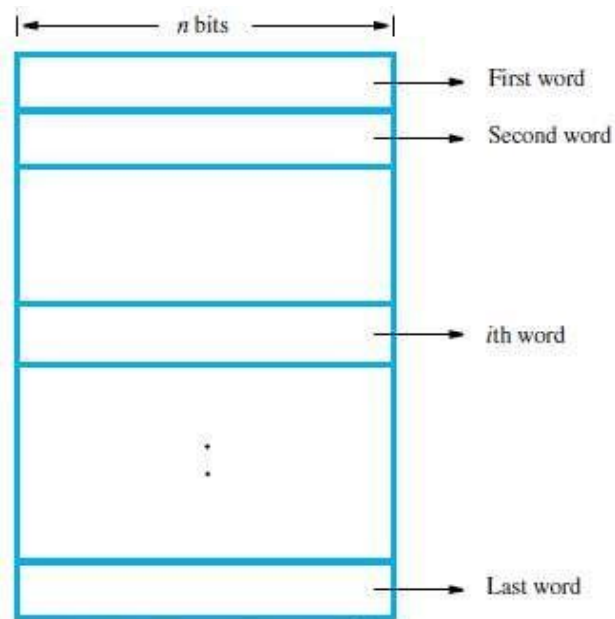

Figure 2.1 Memory words.
- Each cell can store a bit of information i.e. 0 or 1 (Figure 2.1).